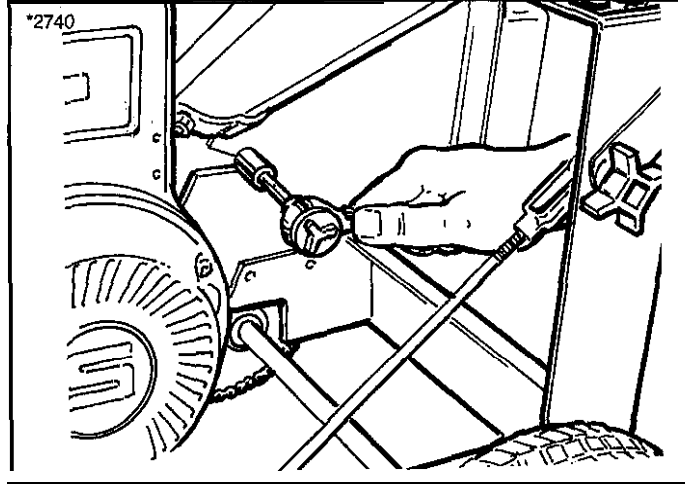

Figure 36. Loosen Discharge Tube Hex Head Nuts - Left Side
10. Loosen the discharge tube hex nuts on the left side of the discharge tube, providing approximately 1/8" clearance between the hex nut and the tube (Figure 36).